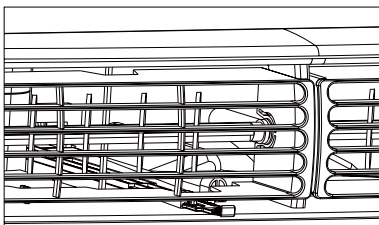

Figure 1 (VENT CLOSED)
- Recirculate inside air - Vent Closed (see Fig. 1)